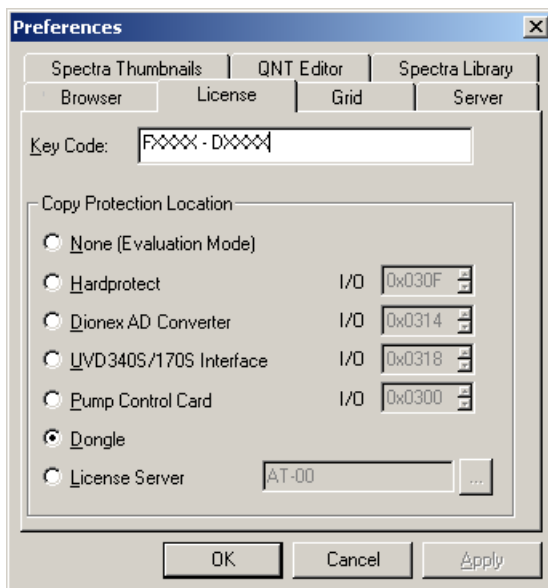

Figure B-7. Preferences: License Page
7. Select **File>Preferences** to open the Preferences dialog box (see Figure B-7). Select the **License** tab and click **Dongle**. Enter the **Key Code** exactly as it appears on the Chromeleon Software License key code sheet. Click **OK**.